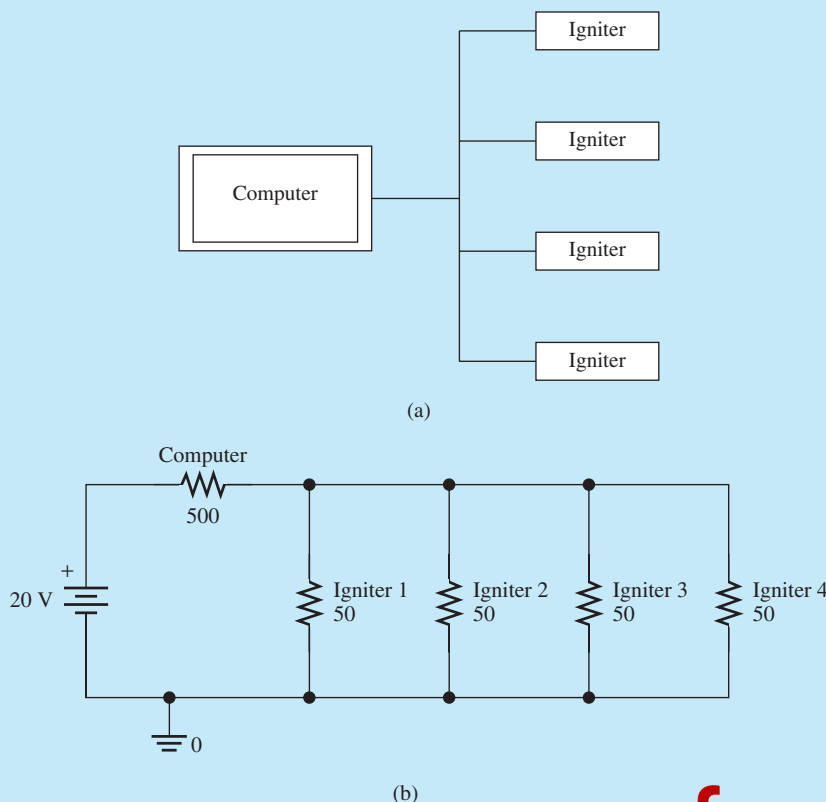
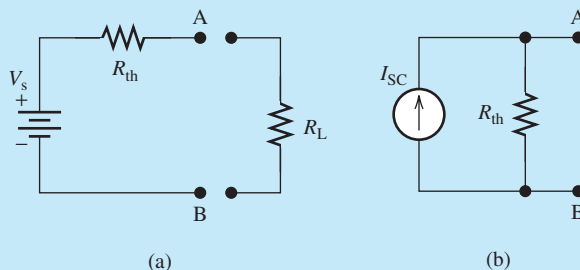

FIGURE 3.77 (a) Simple computer setup and igniters; (b) its equivalent circuit.
FIGURE 3.78 (a) Thévenin and (b) Norton equivalent circuit for the circuit of Figure 3.77.
Aerial fireworks are used in various celebration events. In order to synchronize the firework ignition process, a computer is required. Figure 3.77(a) shows a simple setup of the computer and the igniter for an aerial fireworks show.
Assume a voltage source of 20 V is connected to the computer in series; the computer has a resistance of 500Ω , and the igniter has a resistance of 50Ω when it receives a signal from the computer to order it to launch. Assume the same ground for all igniters and the computer voltage source. The equivalent circuit for the computer and igniters is shown in Figure 3.77(b).
- a. From Figure 3.77(b), the computer's equivalent circuit is a voltage source in series with a $500\text{-}\Omega$ resistor. Indeed, this is the Thévenin equivalent circuit of the computer. The Norton equivalent circuit of the computer will be a current source in parallel to the same resistor. The Thévenin and Norton equivalent circuits are shown in Figure 3.78(a) and (b), respectively.